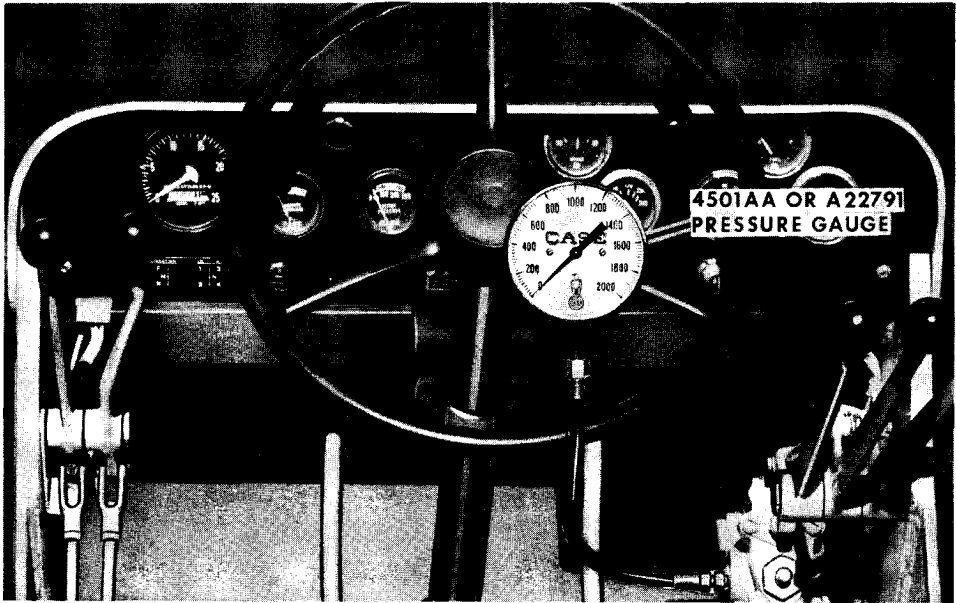

Figure 70
4. Install a 4501AA or A22791 Pressure Gauge in the threaded opening as shown in Figure 70.